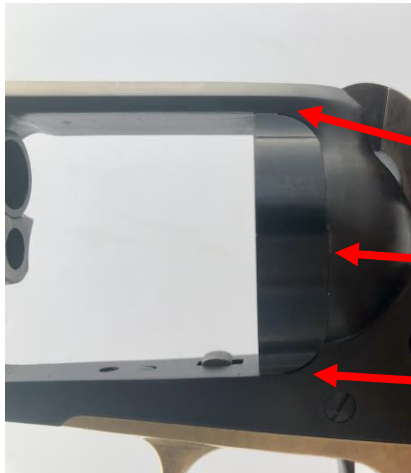

Fig 1
1. Check the Fit of the **Gated Ring (a)**. (Figure 1)